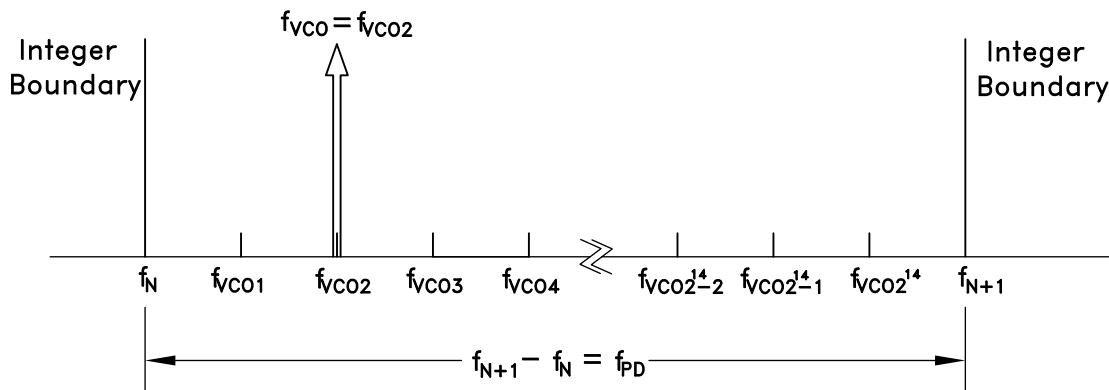

Figure 44. Exact Frequency Tuning
and f_{VCOk} are the channel step frequencies where $0 < k < 2^{24}-1$, As shown in Figure 44.
Some fractional PLLs are able to achieve this by adjusting (shortening) the length of the Phase Accumulator (the denominator or the modulus of the Delta-Sigma modulator) so that the Delta-Sigma modulator phase accumulator repeats at an exact period related to the interval frequency ($f_{VCOk} - f_{VCO(k-1)}$) in Figure 44. Consequently, the shortened accumulator results in more frequent repeating patterns and as a result often leads to spurious emissions at multiples of the repeating pattern period, or at harmonic frequencies of $f_{VCOk} - f_{VCO(k-1)}$. For example, in some applications, these intervals might represent the spacing between radio channels, and the spurious would occur at multiples of the channel spacing.
If it is desirable to have multiple, equally spaced, exact frequency channels that fall within the same interval (ie. $f_N \leq f_{VCOk} < f_{N+1}$) where f_{VCOk} is shown in Figure 44 and $1 \leq k \leq 2^{14}$, it is possible to maintain the same integer-N (Reg 03h) and exact frequency register (Reg 0Ch) settings and only update the fractional register (Reg 04h) setting. The Exact Frequency Channel Mode is possible if (EQ 17) is satisfied for at least two equally spaced adjacent frequency channels, i.e. the channel step size.
To configure the HMC833LP6GE for Exact Frequency Channel Mode, initially and only at the beginning, integer (Reg 03h) and exact frequency (Reg 0Ch) registers need to be programmed for the smallest f_{VCO} frequency (f_{VCO1} in Figure 44), as follows:
1. Calculate and program the integer register setting Reg 03h = $N_{INT} = \text{floor}(f_{VCO1}/f_{PD})$, where f_{VCO1} is shown in Figure 44 and corresponds to minimum channel VCO frequency. Then the lower integer boundary frequency is given by $f_N = N_{INT} \cdot f_{PD}$.
$$\text{Reg04h} = N_{FRAC} = \text{ceil} \left(\frac{2^{24} (f_{VCOk} - f_N)}{f_{PD}} \right) \text{ where } f_N = \text{floor}(f_{VCO1}/f_{PD}), \text{ and } f_{VCO1}, \text{ as shown in Figure 44, represents the smallest channel VCO frequency that is greater than } f_N.$$
4. To change from channel 1 ($f_{VCO1} = 2800.2$ MHz) to channel 2 ($f_{VCO2} = 2800.3$ MHz), only **Reg 04h** needs to be programmed, as long as all of the desired exact frequencies f_{VCOk} (Figure 44) fall between the same integer-N boundaries ($f_N < f_{VCOk} < f_{N+1}$). In that case